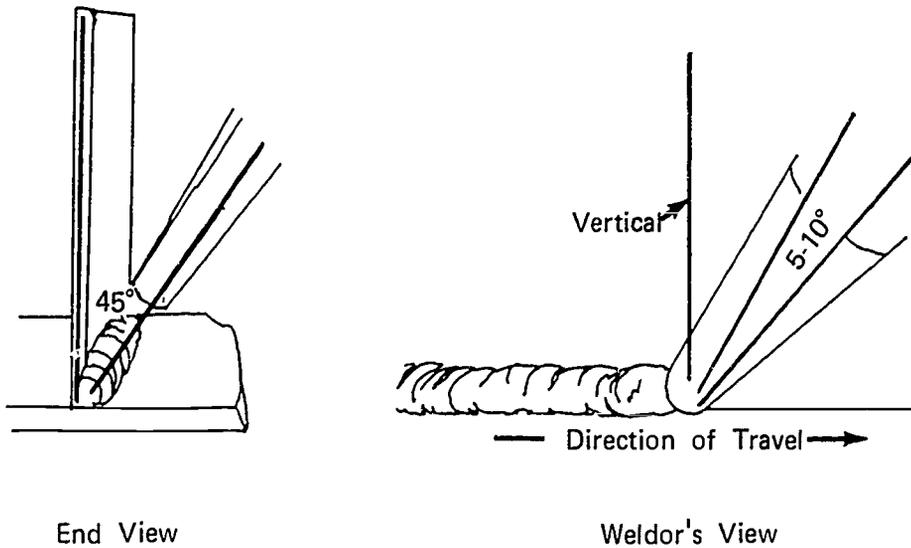

FIGURE 3
F. Position gun at 45° side angle and 5°-10° in direction of travel (Figure 3)